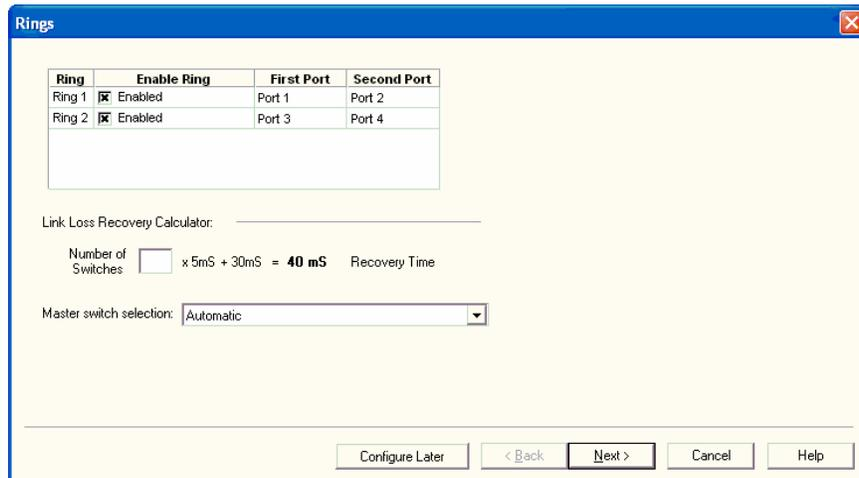

Figure 4.5
- The new configuration keeps the fiber ring enabled on ports 1 and 2, and also enables an Ethernet ring on ports 3 and 4, as shown in Figure 4.5.